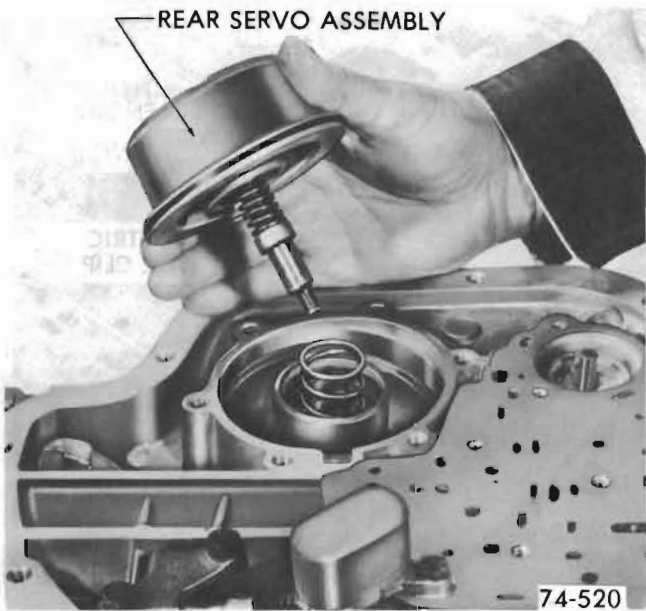

Figure 76-65
2. Remove rear servo assembly from case. See Figure 76-65.